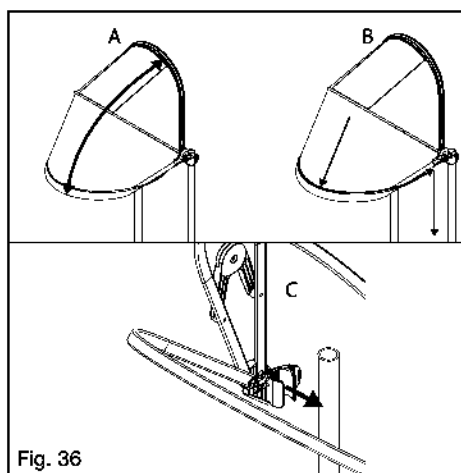

Fig. 36
- Folding the Canopy (Fig. 36:A)
- Quick Removal and Quick Install (Fig. 36:C)
- Rain Catch (Fig. 36:B)